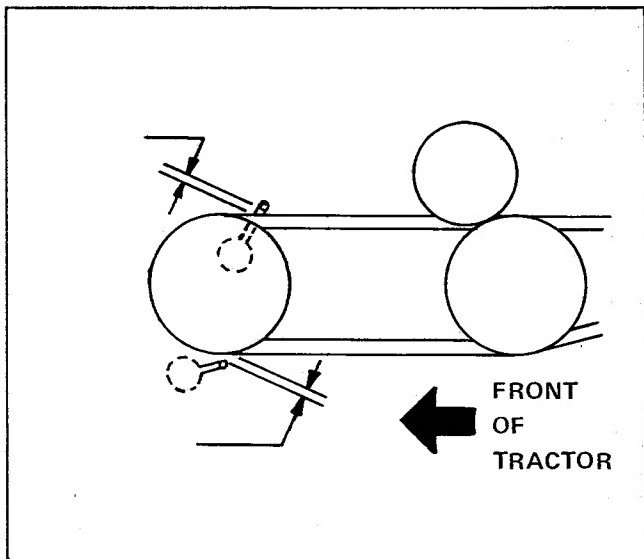

FIGURE 5.
The belt stops are located above and below the drive pulley. (See Figure 5.)
1. The belt stop located above the drive pulley (if needed) is mounted on the top mounting screw of the bevel gear case with a special cap-screw which replaces the original. This belt stop should be adjusted to $1/4$ " clearance as shown in figure 5.
3. While holding the cap-screw with a wrench so it will not turn, loosen the nut located on the other side of the mounting plate (see figure 5) enough so the belt stop can be moved. Adjust the belt stop so there is $1/16$ " to $1/8$ " clearance between it and the drive belt.